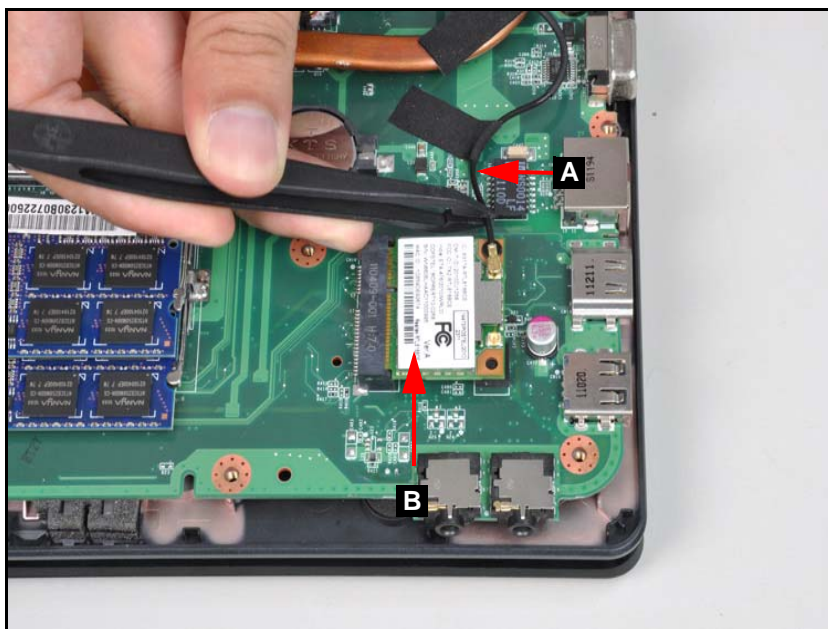

Figure 3-18. WLAN Module
1. Lift the RTC battery away from the mainboard (Figure 3-18).
1. Place the RTC battery into the mainboard connector. Refer to Figure 3-18.
1. Find the WLAN module (B) (Figure 3-18).
2. Disconnect antenna cables (A) from module (Figure 3-18).
4. Install the antenna cables on WLAN module. Refer to Figure 3-18.